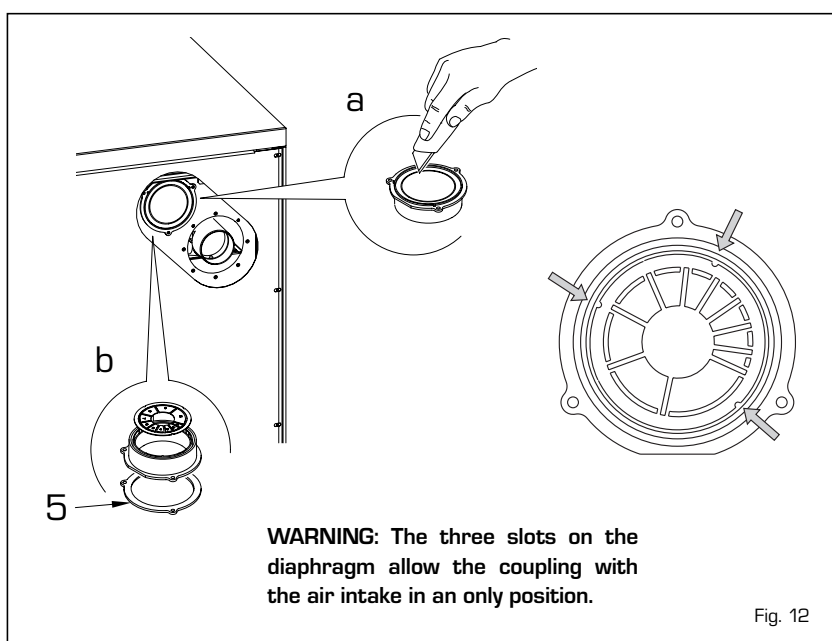

Fig. 12
3.4.2 Use of air intake (fig. 12)